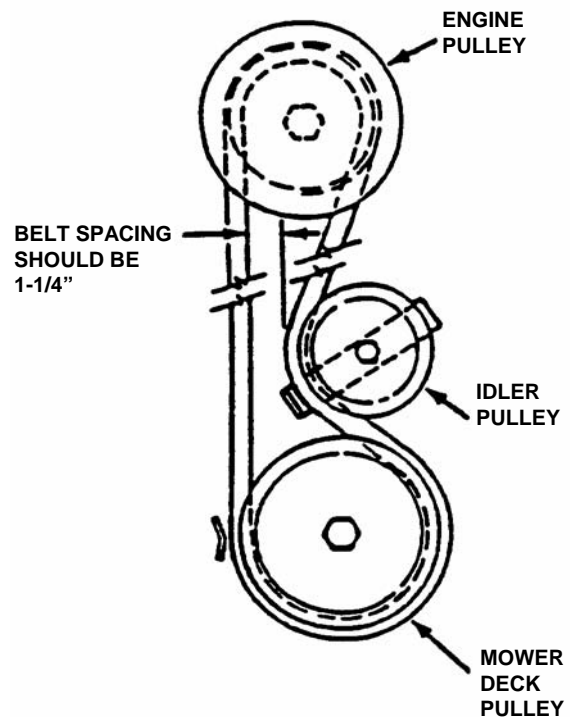

FIGURE 3.4
5. **28" and 30" Decks:** Measure the belt spacing at idler pulley. See Figure 3.4. The belt spacing should be 1-1/4" but no less 1". If the measurement is less than 1", the belt tension should be adjusted. Refer to Section "BLADE DRIVE BELT ADJUSTMENT".